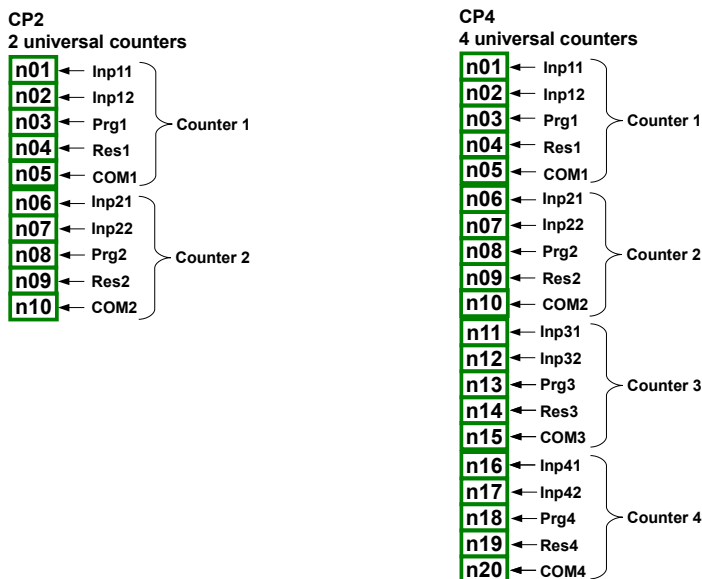
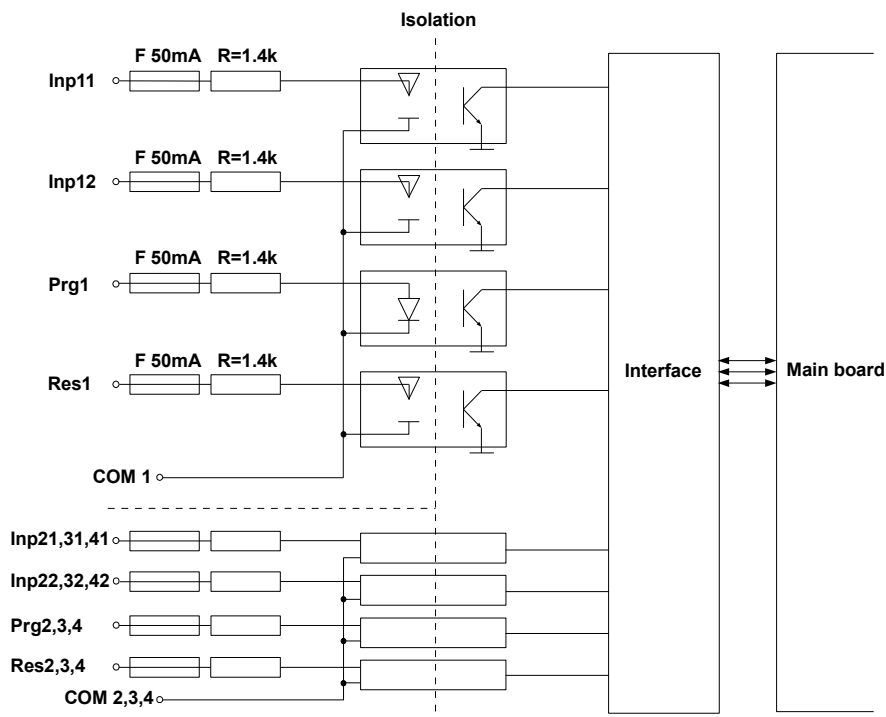

Fig. 8.19. Optoisolated counter modules
Fig. 8.20. Internal structure of the optoisolated Universal counters modules
**CP2** and **CP4** are the modules of the universal 4-input counters (Fig. 8.19). Each counter has a common terminal (**COM**) and is optically isolated from other counters and the **CONTROLLER/DATA RECORDER** GND signal as well, see Fig. 8.20.